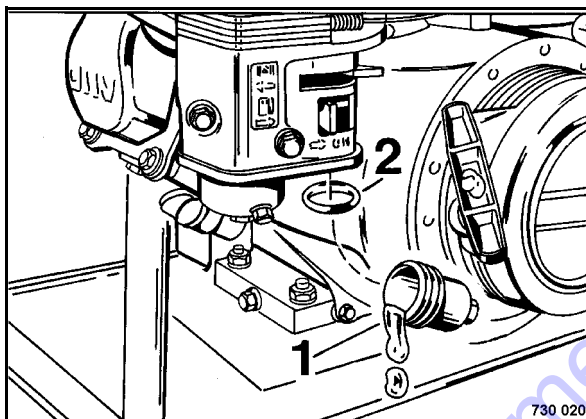

Fig. 53
- With the fuel tap closed unscrew the fuel sludge filter (1) (Fig. 53) and wash out in fuel.
- Check the O-ring (2) for damage, replace if necessary.